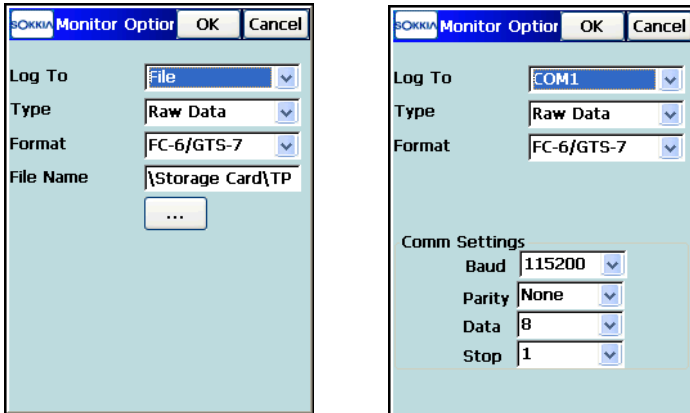

Figure 8-71. Monitor Options
1. Set the format and destination for the output file in the *Monitor Options* screen which is accessed from the context menu in the upper-left corner of the *Configure Instrument* dialog box (Figure 8-71).